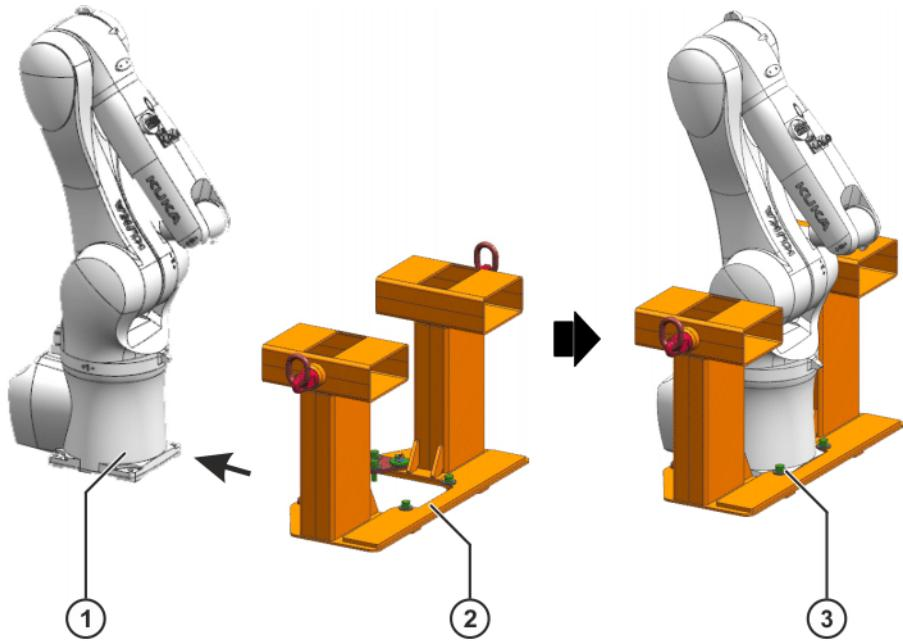

Fig. 8-9: Pushing on the Load Lifting Attachment and fastening it at the front
3. Carefully push the Load Lifting Attachment onto the base frame of the robot from the front (**>>> Fig. 8-9**).